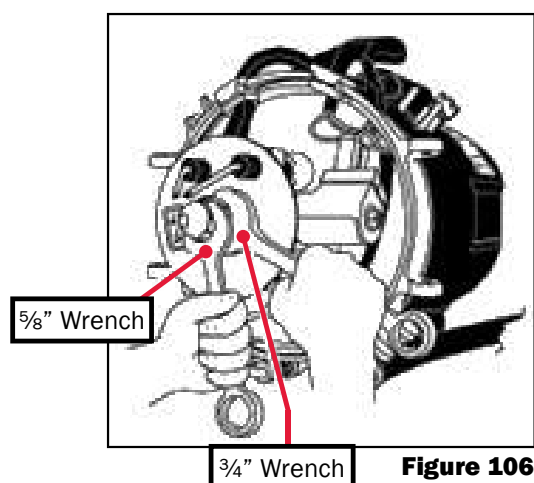

Figure 106
1. Use a $\frac{3}{4}$ " wrench to hold the fuel nozzle stand hex while loosening the fuel nozzle with a $\frac{5}{8}$ " wrench and remove as shown in Figure 106.